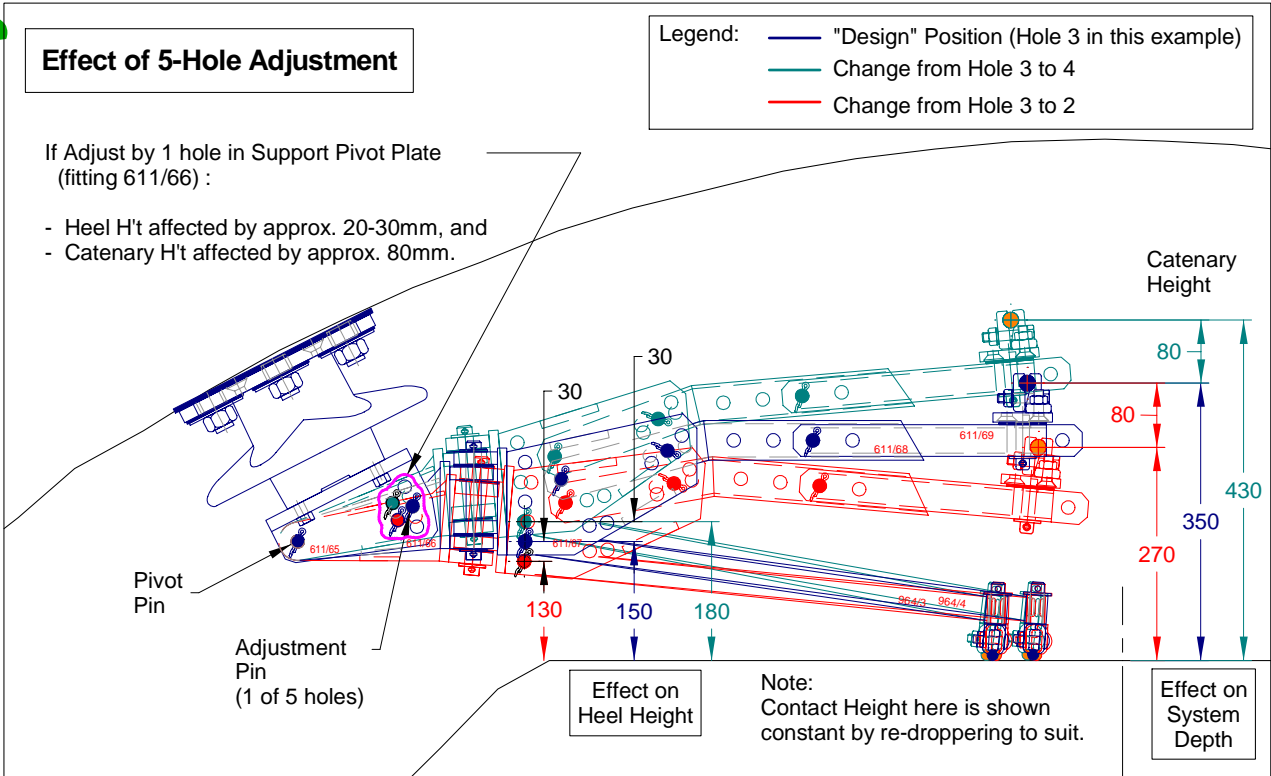

Figure 29 - Effect of Using 5-Hole Adjustment on Catenary & Heel Heights
*Figure 29* shows the general effect on Catenary height if using the 5-Hole Adjustment (which is intended for getting the External Tube to be horizontal when setting up). This is not the preferred adjustment method, but may be required if other things don't appear to work. The Figure shows that the droppers need to be adjusted to get back to the design Contact height.